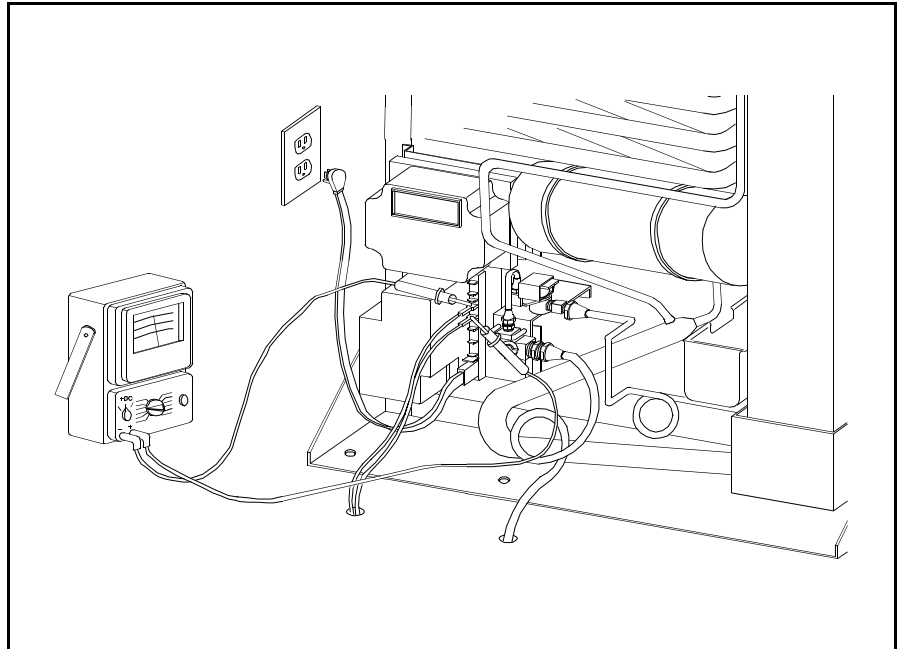

Figure 5.23 12 Volt DC Supply Check
1. Check the 12 volt DC input to the Power Supply as shown in Figure 5.23. Refrigerator must have 12 Volts to operate in any mode.